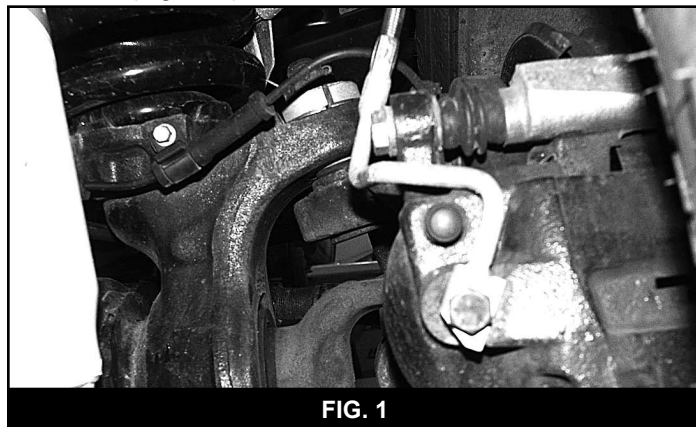

FIG. 1
4. Install a new crush washer on the OE banjo bolt and install the bolt in the end of the new stainless steel brake line followed by a second crush washer. Attach the entire assembly to the caliper and torque the bolt to 20 ft-lbs. (Figure 1)